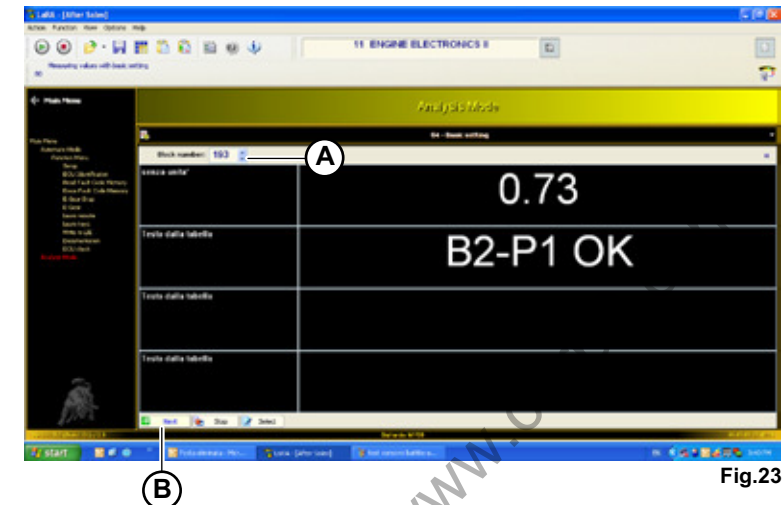

Fig.23
- Select routine 193 inside the block number (A-Fig.23).
- Start the connection () and press the start push-button (B-Fig.23).